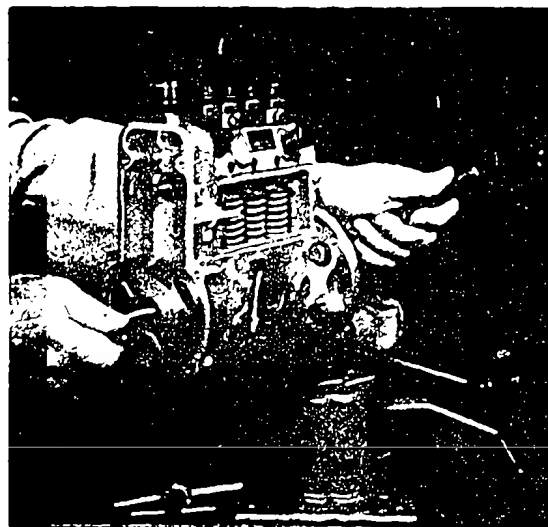

Fig. 8 Unscrewing the ring nut from the governor flyweight assembly
2.2. 4. Release ring nut (6) on governor flyweight assembly (1) using pin wrench EFEP 187 A securing against rotation with wrench EFEP 119 applied to the coupling at the opposite end of the camshaft end (Fig. 8).